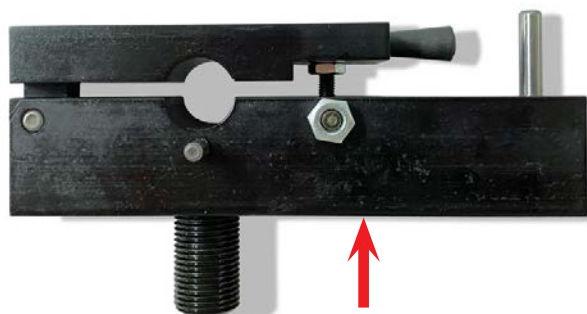

FIGURE 11— Bar Feeder Front-Mount Assembly (P/N 8826). The red arrow shows the offset location of the ball screw lathe threaded-adjustment rod (P/N 8827).
5. The front-mount top assembly will be fully assembled (Chuck Lathe, P/N 8826/ Ball Screw Lathe, P/N 8827) with the threaded-adjustment rod (P/N 882718/88272) threaded in with Loctite (see Figure 11).